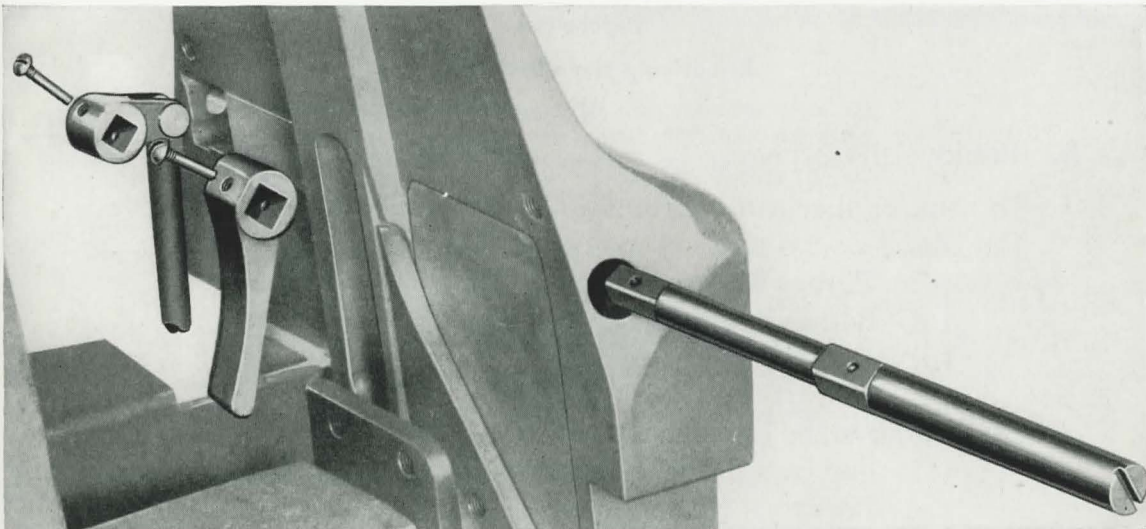

Figure 60
- (1) Remove the front guide.
- (2) Remove the left rail of the rear guide.
- (3) Remove the right rail of the rear guide.
- (4) Remove the feed control mechanism, **Figure 60**, and the rear guide.